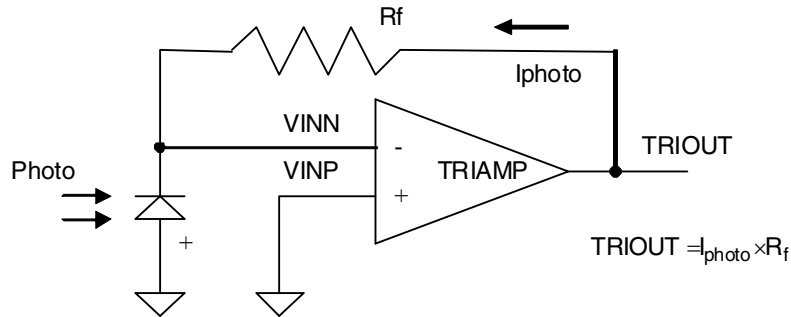

Figure 48. Current to voltage conversion with TRIAMP
2. Current to voltage stage is implemented with a trans impedance amplifier to convert current signal generated from biosensor to voltage signal; there are two on-chip TRIAMPs that can be used for this purpose. The external connection needed is illustrated in Figure 48 where the photo-diode is to simulate any current source from the biosensor. Following is the code snippet needed for enabling TRIAMP for the conversion.